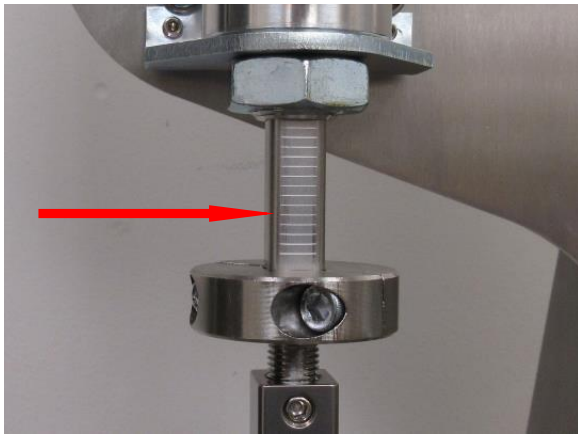

Figure 3
- The graduations on the cylinders represent approximately 0.072 of an inch. (**Figure 3**)
- Re-adjust the stop collars to the desired opening you need and tighten the bolts. **(Figure 3)** *See Section 3.2 for details.*